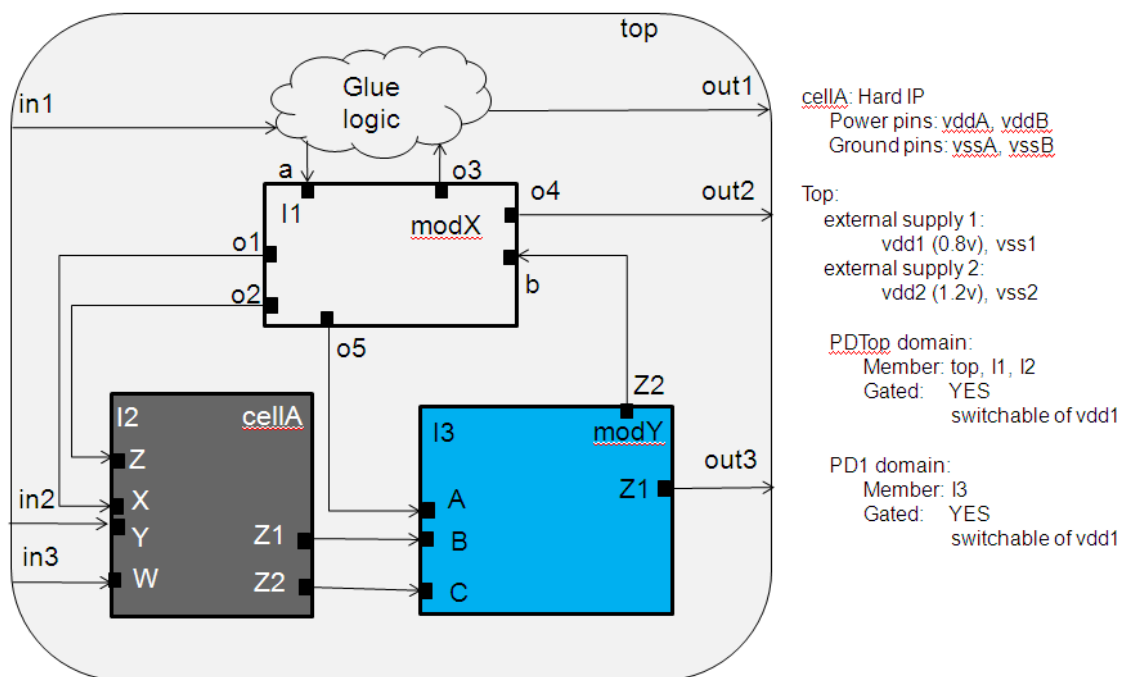
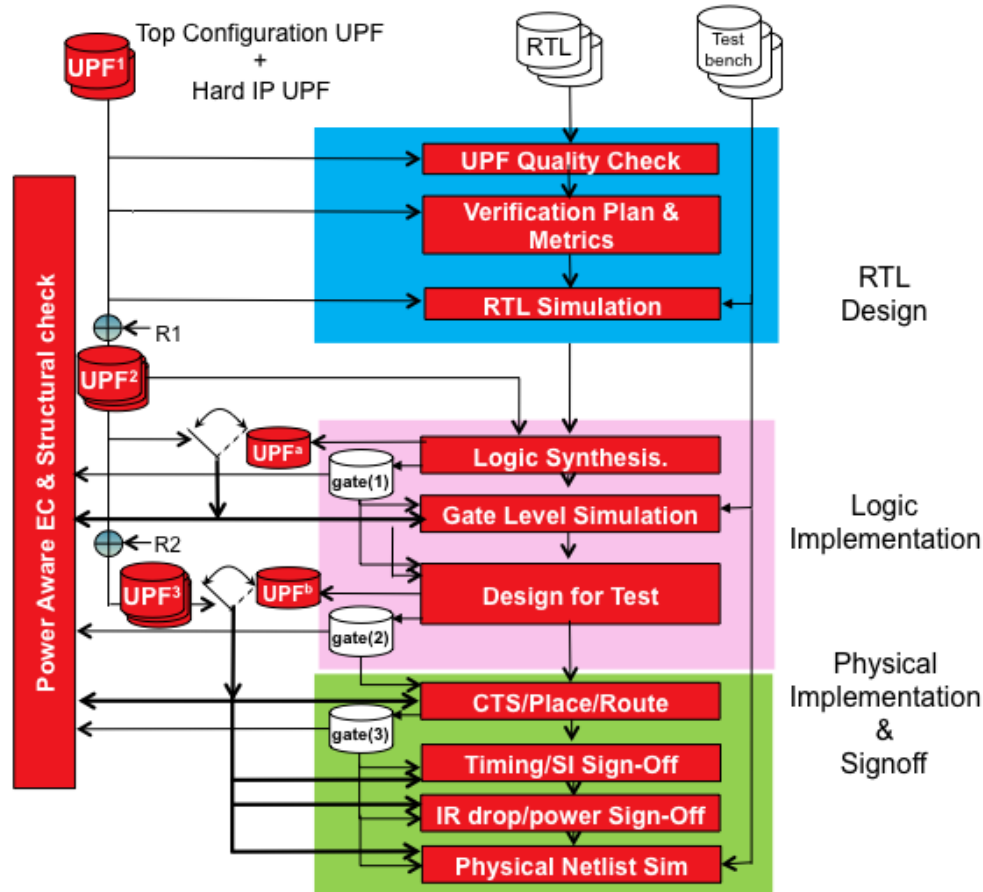
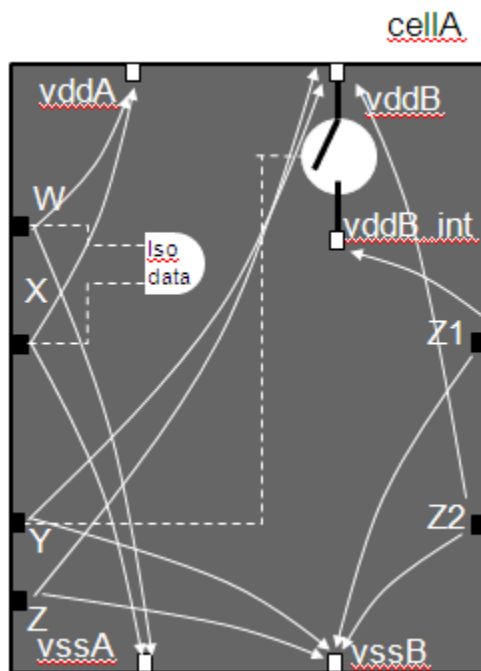

Figure E.1—Simple soft IP design
Figure E.2—Typical UPF design flow
Figure E.3—Internal power structure of the hard IP
In a typical design flow, a soft IP is implemented independently with its own timing, power, and other constraints. Similarly, a power intent file can be created for this soft IP to drive the design, verification, and implementation of its power-management architecture. Consider the simple soft IP shown in Figure E.1.
Figure E.2 illustrates a typical UPF design flow for a soft IP like the one shown in Figure E.1.
For each of the three design stages shown in Figure E.2, the design example in Figure E.1 illustrates how the UPF shall be created, used, and passed on to the later stages of the design flow. Starting from RTL design, followed by logic implementation, and then physical implementation, this annex shows how to leverage the configuration UPF (UPF^1 in Figure E.2) to create the power intent with the successive refinement methodology for later stages of the flow. Some best practices on how to create a flow to make sure the configuration UPF can be used at every stage will be discussed as well.
The configuration UPF is created at this stage, which typically includes the UPF for the RTL soft IP and the UPF for the hard IPs instantiated within the soft IP. The UPF created at this stage is often referred to as the *configuration UPF*, denoted as UPF¹ in Figure E.2.
Figure E.3 illustrates the internal power structure of the hard IP `cellA` in the example of Figure E.1. The dotted lines illustrate how some of the boundary ports are connected internally. The solid arrow lines indicate the power supply relationship of each boundary pin.
The power intent for the hard IP in Figure E.3 includes the following characteristics:
- Input ports W and X are related to vddA/vssA. Internally, port X has internal isolation. As shown in Figure E.3, port X is connected to the data pin of an isolation gate and W is connected to the enable pin of the same isolation gate inside of this hard IP.
In this example, the power domain `PD` is created to specify the three supply sets of the IP. The supply set handle `SSAH` is created for the power and ground ports `vddA` and `vssA`, and the supply set handle `SSBH` is created for the power and ground ports `vddB` and `vssB`. As indicated in Figure E.3, the hard IP has a data port `Z1` related to the internally gated supply of `vddB`.